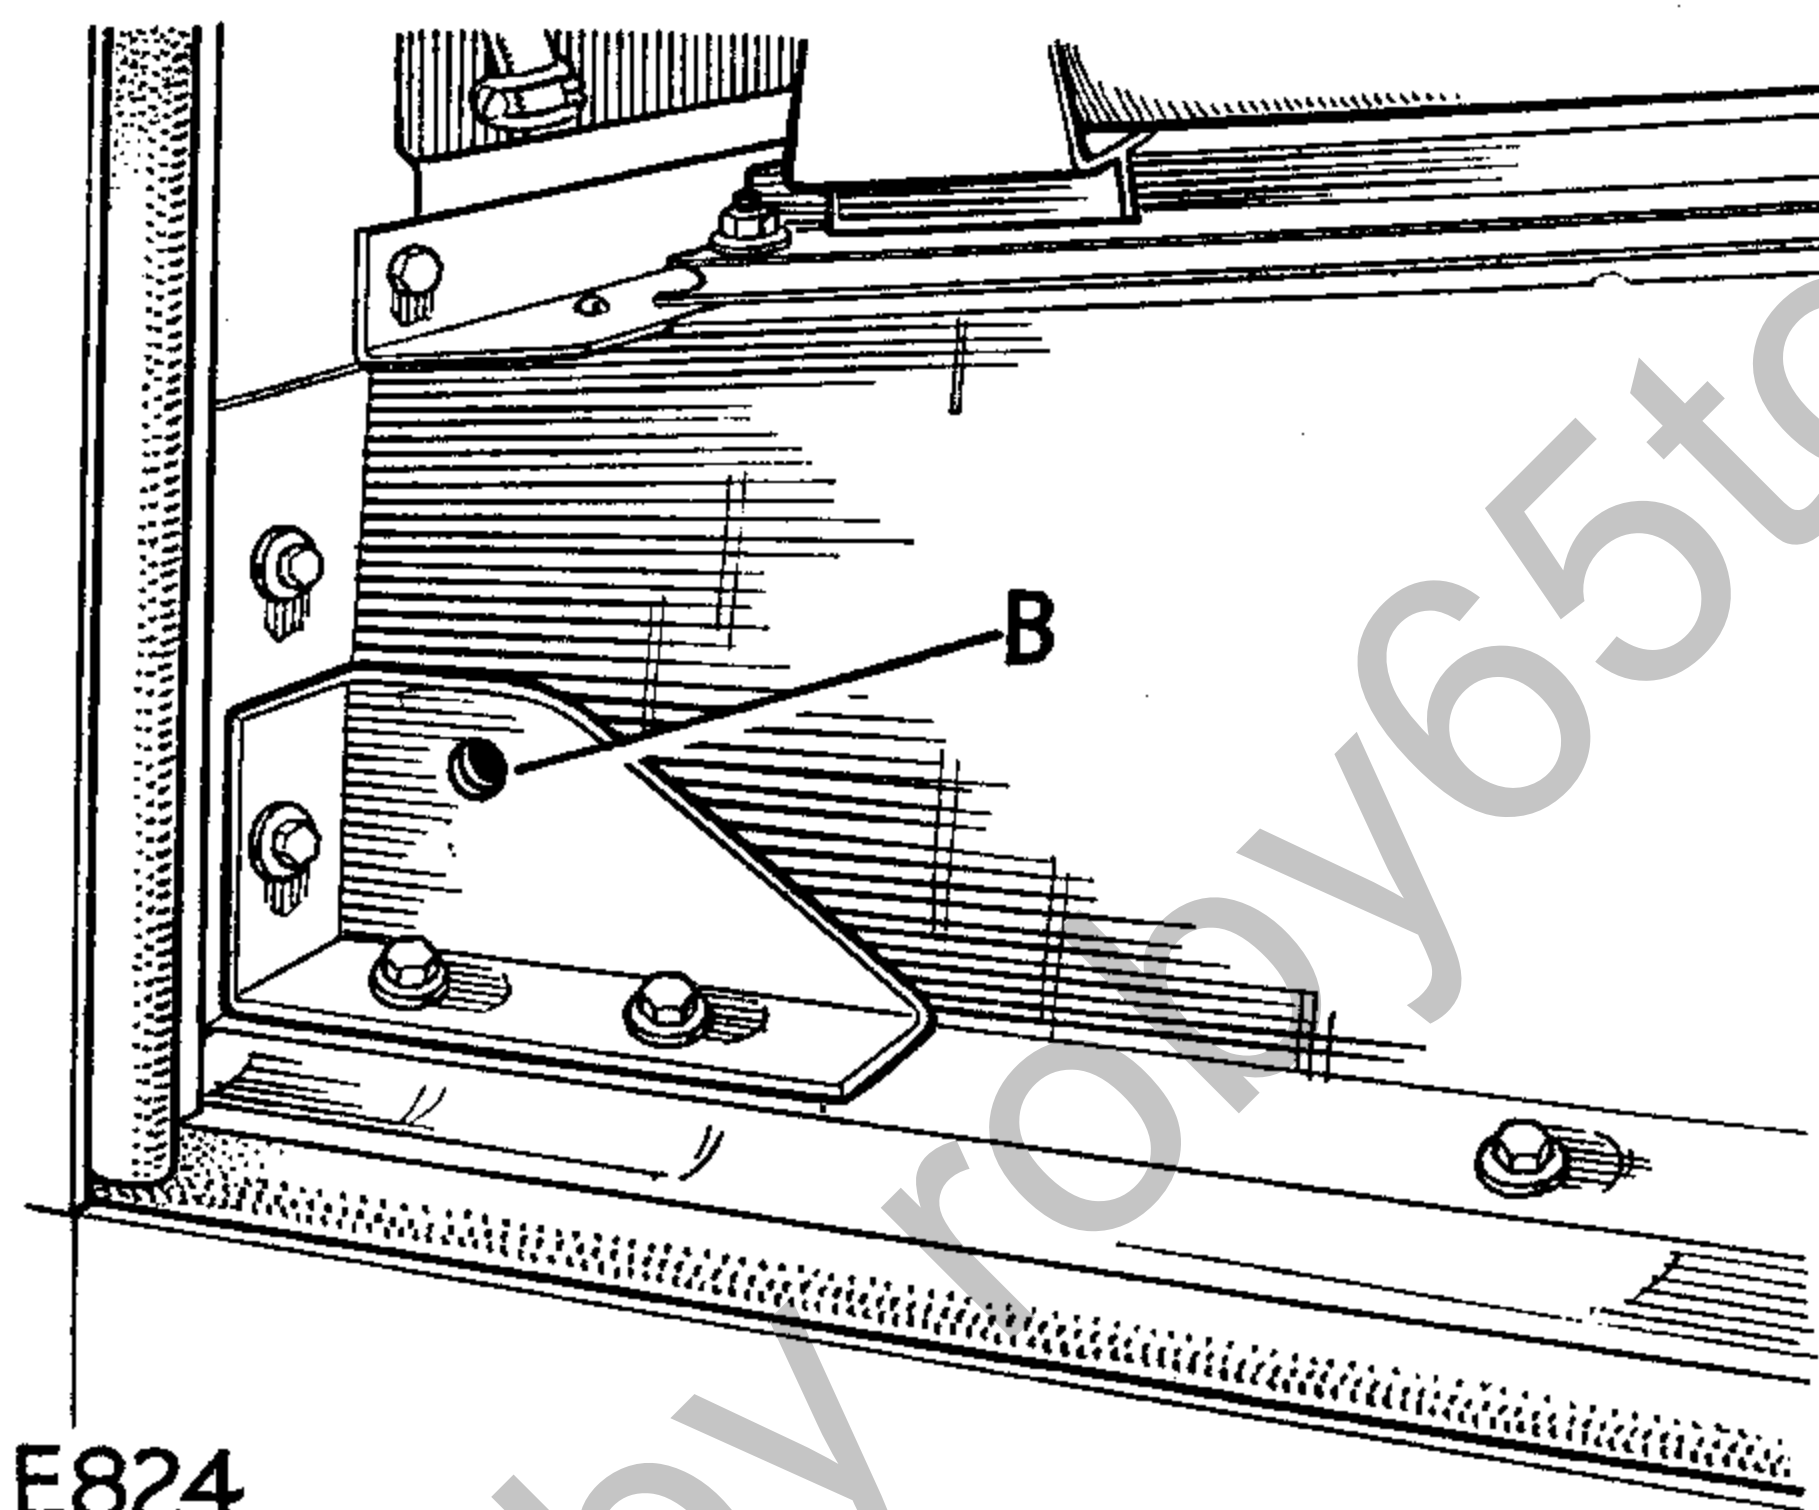

Fig. 13.
2. Position the sill gusset R.H. or L.H. as required into the corner and secure, using the original body fixings, as shown in Fig. 13.